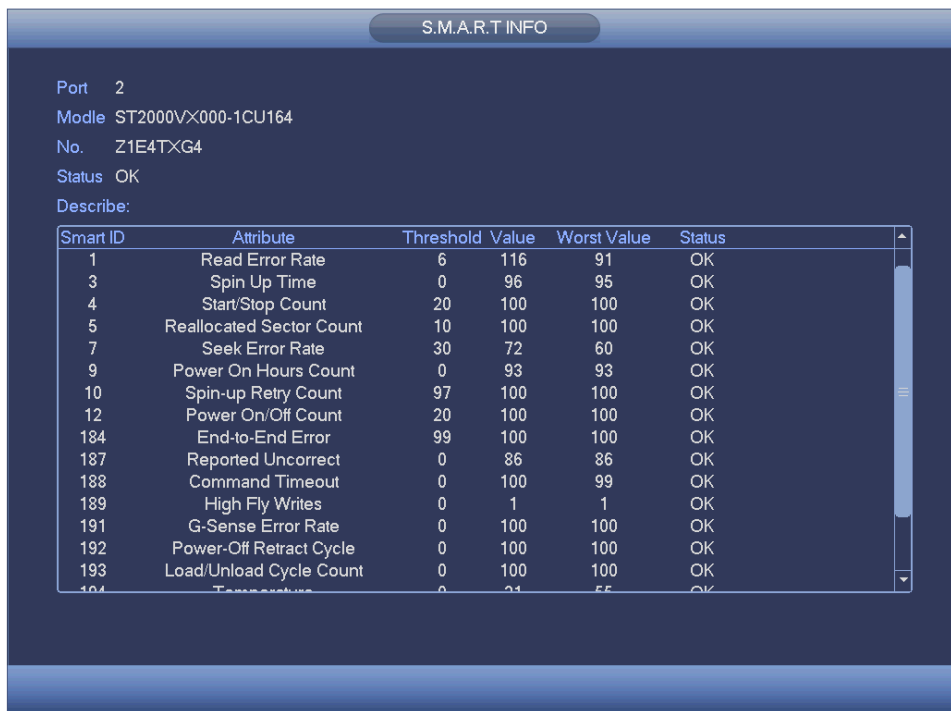

Figure 4-86
- SMART: Display HDD information. See Figure 4-86.
Double click one HDD information; you can see the HDD SMART information. . See Figure 4-86.